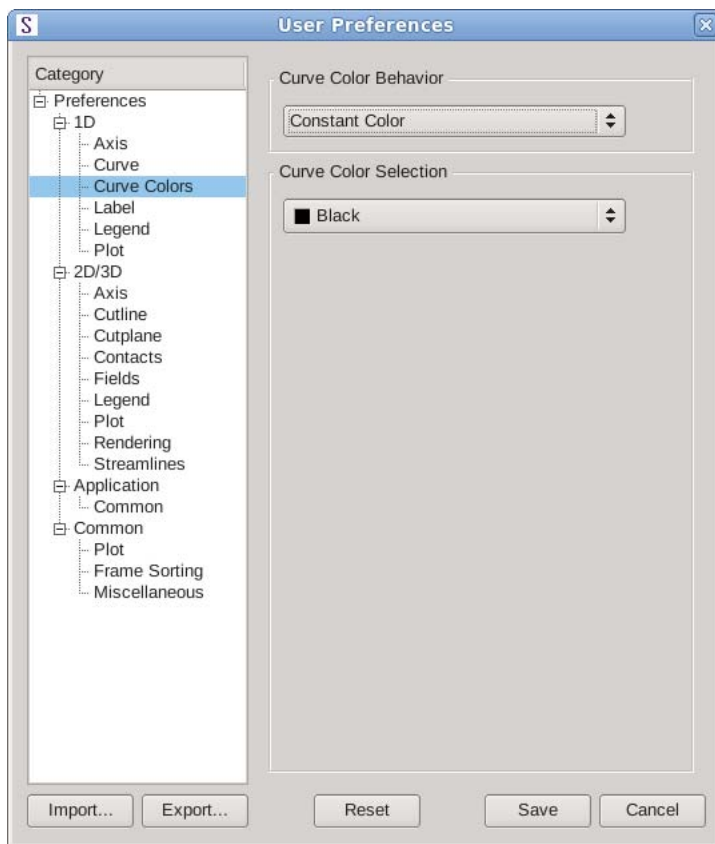

Figure 21 User Preferences dialog box showing a constant curve color has been specified
1. Under Curve Color Behavior, select **Constant Color** (see Figure 21 on page 41).